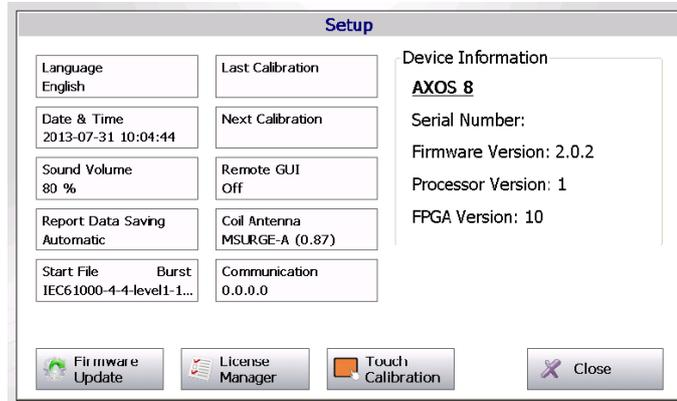
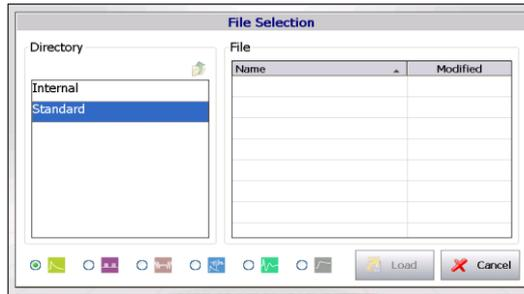

Figure 6-3 Setup Menu
Figure 6-5 File selection Internal/Standard
Two directories can be selected as shown in Figure 6-5 File selection Internal/Standard. However, the “standard” directory can only read and load the predefined test procedure in accordance to the particular norm. The second directory is “Internal”. The internal data (customized testing files) can be saved, loaded and deleted. Either of the directories can only be accessed out of the particular menu, like for instance the “surge” generator.
**Note:** When file wants to be applied and started without any external signal parameter, it must be selected inside the specific modus (e.g. Surge”) via “load”. However, if controlled from an external signal, it must be selected through the “Setup” (Figure 6-3 Setup Menu) and then confirmed as seen in Figure 6-5 File selection Internal/Standard. Selection in “setup” menu will not be applied to generator when not external control of the program..
For instance, in the Standard Mode after selecting the peak voltage field, the numeric display appears as shown in Figure 6-5. In a similar way works the repetition rate and the number of surge. Awareness is to give for line synchronization; hence, it has been described more detailed in the capture 6.3.4.